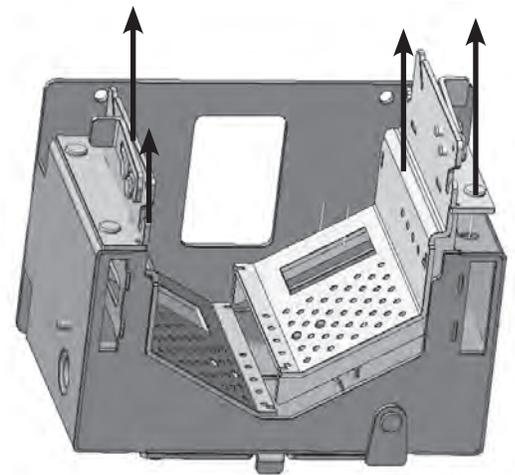

Figure 21
11. Remove the Burn Shell by lifting up and out (Figure 21).